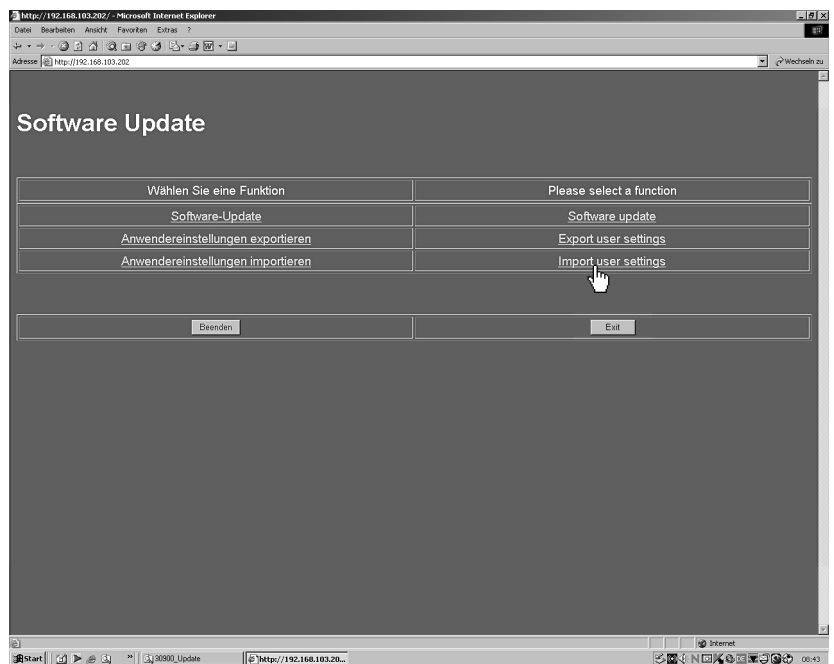
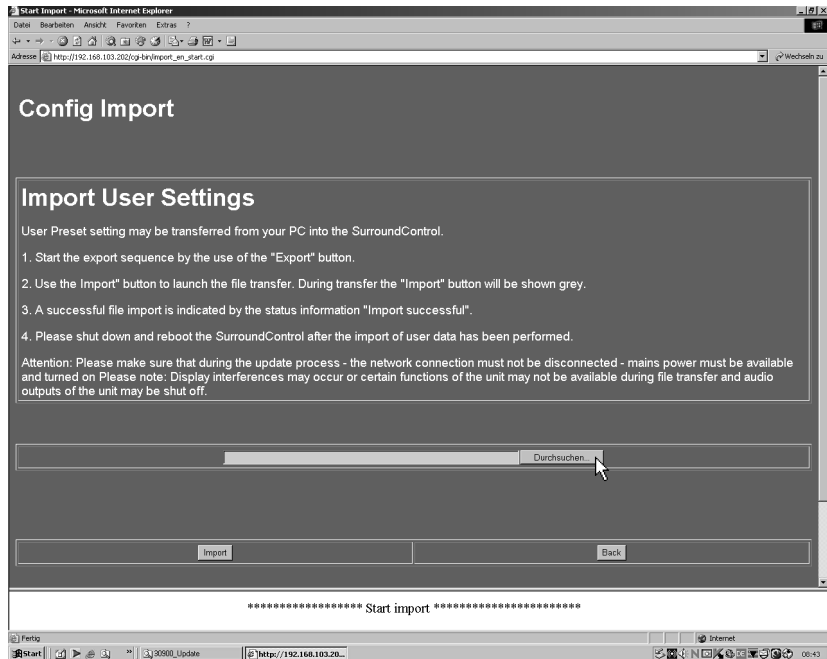
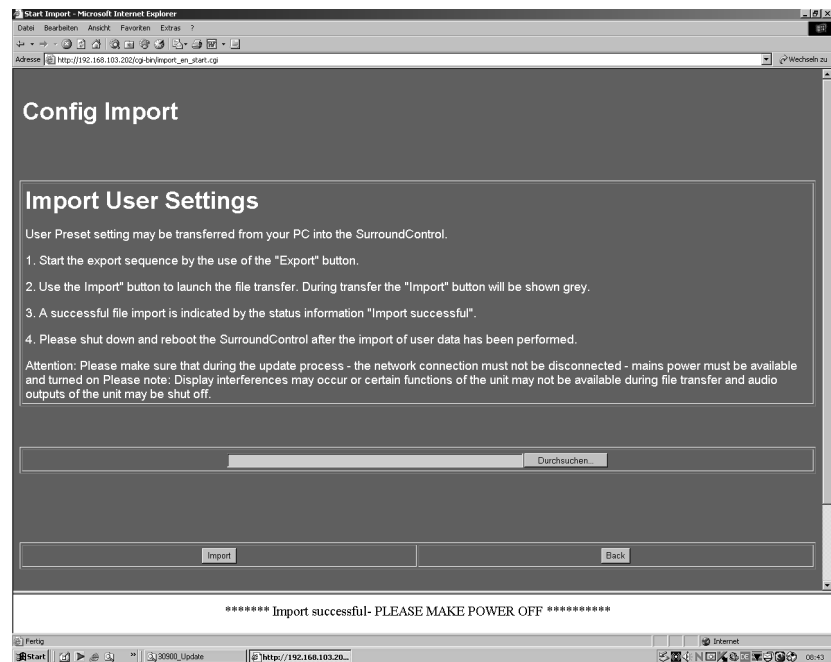

Fig. 5-18: Software Update Program menu in web browser
Fig. 5-19: Display of the Import menu page („Durchsuchen“)
Fig. 5-23: End of the import of the user settings
2. The SurroundControl 30900(-24) should respond with a screen like the one shown in Fig. 5-18. Choose Export user settings. **Please note the instructions on the Import menu page** (see Fig. 5-19).
3. Please click the „Durchsuchen“ button (see Fig. 5-19) to browse for the user settings data file.
- When Import successful - PLEASE MAKE POWER OFF is displayed the Import process is finished (see Fig. 5-23). For activating the imported user settings the SurroundControl 30900(-24) has to be restarted.
- Click the Back button (see Fig. 5-23) to get back to the home page (see Fig. 5-18). There please click Finish to leave the software update program.